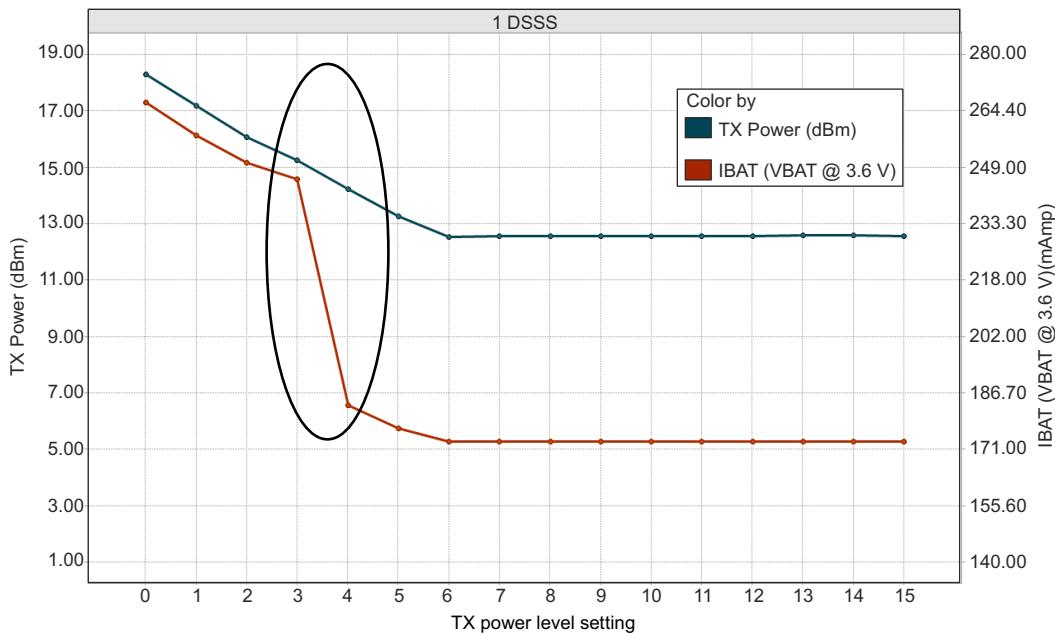
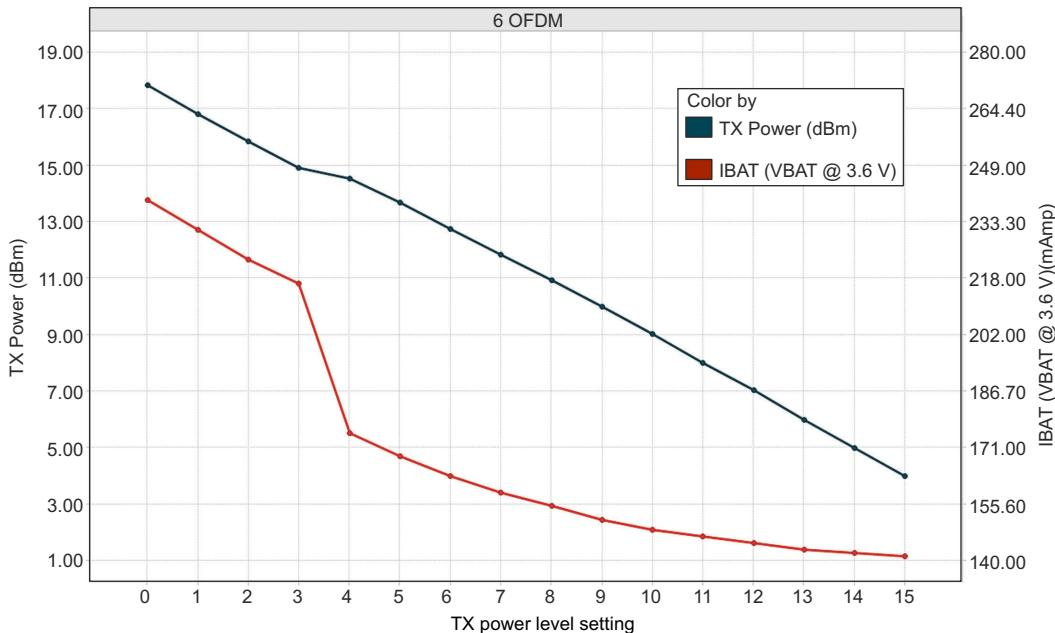
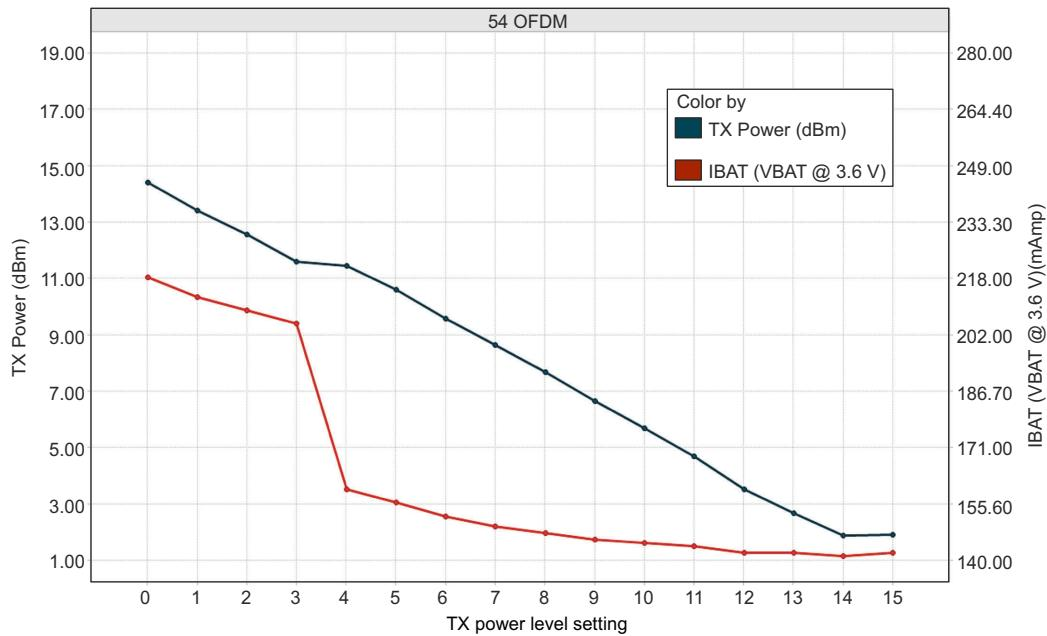

Figure 7-1. TX Power and IBAT vs TX Power Level Settings (1 DSSS)
Figure 7-2. TX Power and IBAT vs TX Power Level Settings (6 OFDM)
Figure 7-3. TX Power and IBAT vs TX Power Level Settings (54 OFDM)
- (1) TX power level = 0 implies maximum power (see Figure 7-1, Figure 7-2, and Figure 7-3). TX power level = 4 implies output power backed off approximately 4 dB.
- (2) LPDS current does not include the external serial flash. The LPDS number of reported is with retention of 256KB of MCU SRAM. The CC3230x device can be configured to retain 0KB, 64KB, 128KB, 192KB, or 256KB of SRAM in LPDS. Each 64-KB block of MCU retained SRAM increases LPDS current by 4 µA.
- (3) DTIM = 1
- (4) The complete calibration can take up to 17 mJ of energy from the battery over a time of 24 ms. In default mode, calibration is performed sparingly, and typically occurs when re-enabling the NWP and when the temperature has changed by more than 20°C. There are two additional calibration modes that may be used to reduced or completely eliminate the calibration event. For further details, see CC31xx, CC32xx SimpleLink™ Wi-Fi® and IoT Network Processor Programmer's Guide.
- (5) The CC3230x system is a constant power-source system. The active current numbers scale based on the V_{BAT} voltage supplied.
- (6) Typical numbers assume a VSWR of 1.5:1.
- (1) TX power level = 0 implies maximum power (see Figure 7-1, Figure 7-2, and Figure 7-3). TX power level = 4 implies output power backed off approximately 4dB.
- (2) LPDS current does not include the external serial flash. The LPDS number of reported is with a retention of 256KB of MCU SRAM. The CC3230x device can be configured to retain 0KB, 64KB, 128KB, 192KB, or 256KB of SRAM in LPDS. Each 64-KB block of MCU retained SRAM increases LPDS current by 4 μA .
- (4) The complete calibration can take up to 17 mJ of energy from the battery over a period of 24 ms. Calibration is performed sparingly, typically when coming out of HIBERNATE and only if the temperature has changed by more than 20°C. The calibration event can be controlled by a configuration file in the serial flash.
- (5) Typical numbers assume a VSWR of 1.5:1.
Figure 7-1, Figure 7-2, and Figure 7-3 show TX power and IBAT versus TX power level settings for the CC3230S device at modulations of 1 DSSS, 6 OFDM, and 54 OFDM, respectively. For the CC3230SF device, the IBAT current has an increase of approximately 10mA to 15mA depending on the transmitted rate. The TX power level will remain the same.
In Figure 7-1, the area enclosed in the circle represents a significant reduction in current during the transition from TX power level 3 to level 4. In the case of lower range requirements (14dBm output power), TI recommends using TX power level 4 to reduce the current.